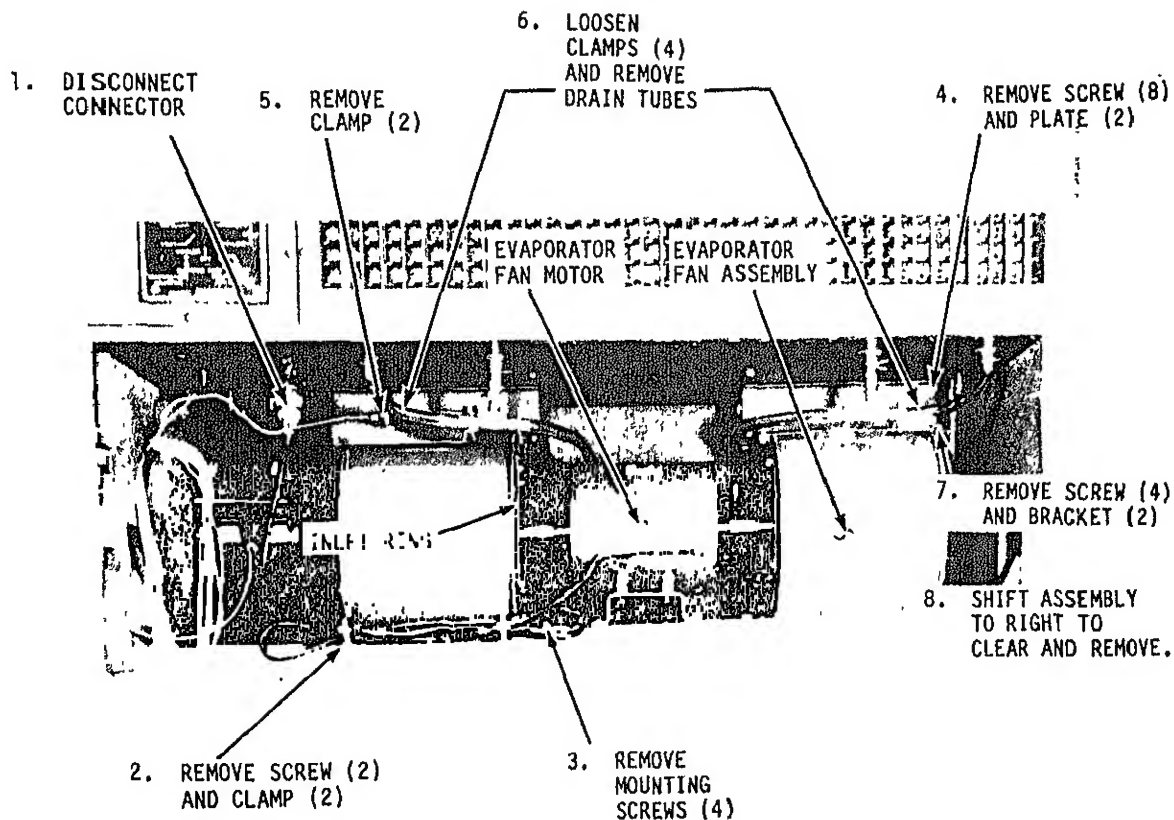

Figure 4-7. Evaporator fan and motor assembly, removal and installation
(2) Refer to figure 4-7 and remove the evaporator fan and motor assembly.
(2) Refer to figure 4-7 and install evaporator fan and motor assembly.